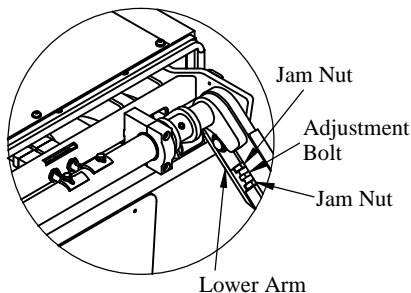

Figure 7: Lower arm adjustment.
3. **Loosen** the jam nuts on the lower arm while holding the adjustment bolt with an additional wrench. Pay close attention to the thread rotation direction, some are left-hand thread (Figure 7).